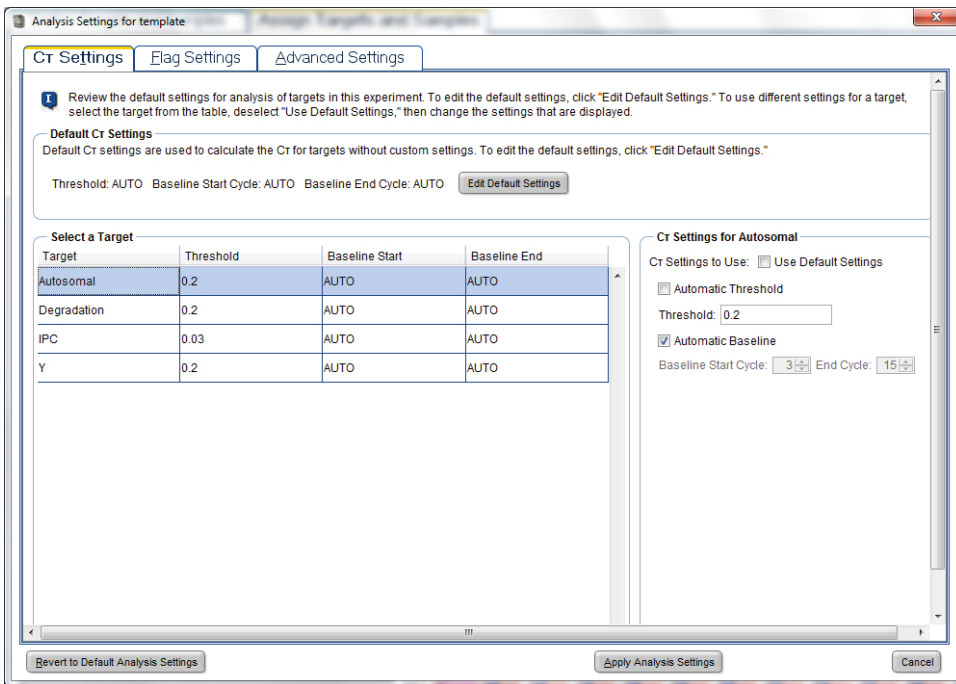

Figure 19. The 'Analysis Settings' window.
13. On the 'CT Settings' tab (Figure 19) in the Select a Target panel, select the Autosomal target.